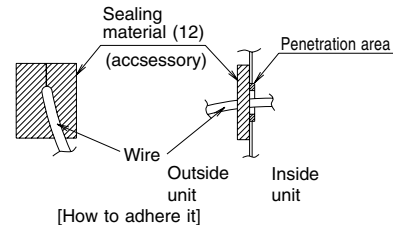

Fig. 17
- Wire only after removing the control box lid as shown in Fig. 17.
- Wrap the strong and weak electric lines with the sealing material (12) as shown in the figure below. (Otherwise, moisture or small creatures such as insects from the outside may cause short-circuit inside the control box.) Attach securely so that there are no gaps.
- When clamping the wiring, use the included clamp material (9) and (10) as shown in the Fig.17 to prevent outside pressure being exerted on the wiring connections and clamp firmly.